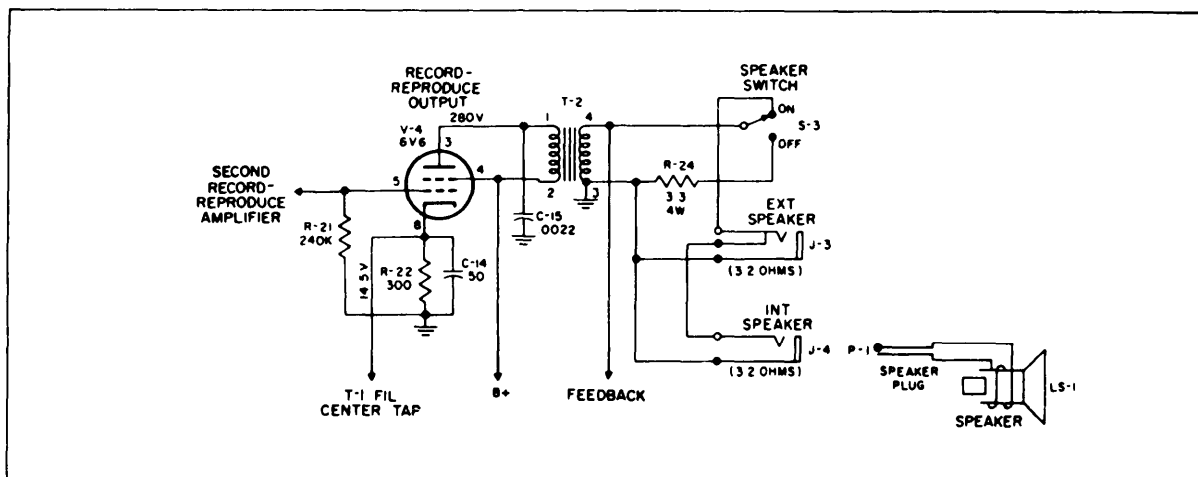

Figure 21. Reproduce Output - Schematic Diagram
5.8.3.3 REPRODUCE OUTPUT (See figure 21.)